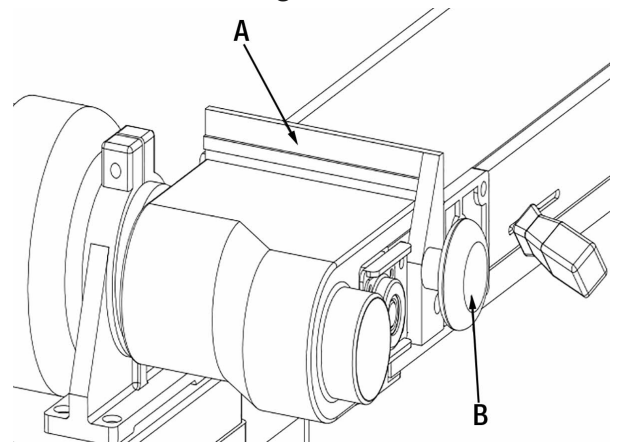

Figure 8
3. Lower the sanding belt assembly into the horizontal position as shown in Fig.8.
It is highly recommended to install and use the back stop (A) Fig.8 during flat sanding operations with the sanding belt is in the horizontal position.
1. Position the backstop pin into the mounting hole on the side of the sanding belt assembly, and secure back stop (A) using the large lock knob (B).